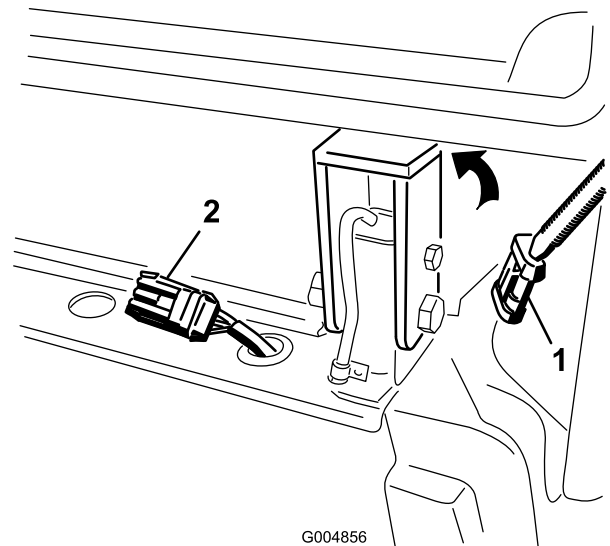

Figure 128
42. Remove the cap and plug the cab wire harness connector into the harness on the rear frame mount (Figure 128).